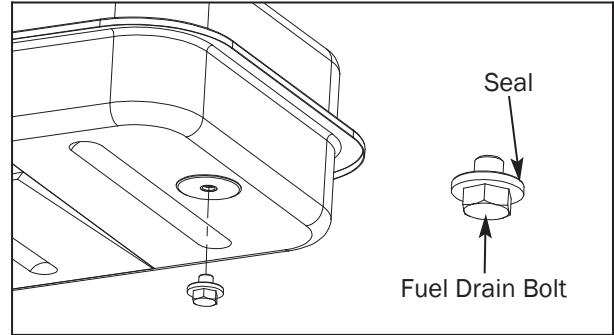

Figure 12 - Drain Plug Removal
1. Remove drain bolt from bottom of fuel tank. See Figure 12.